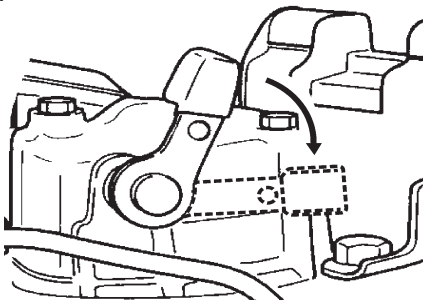

Figure 13. Decompression Lever
3. Push down the decompression lever (Figure 13) and release.